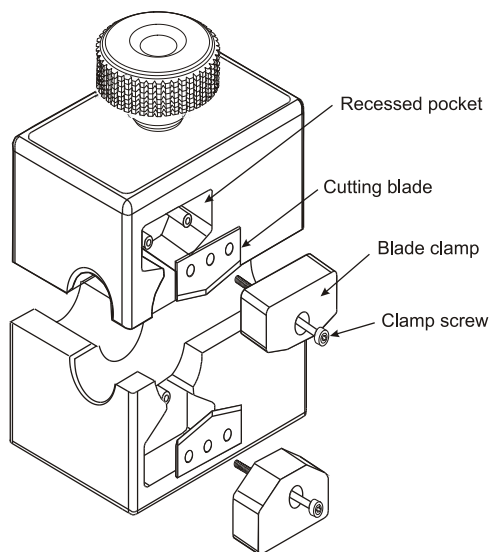

Figure 5. Blade Replacement for the 1050E Tool
6.11 The following paragraphs describe blade replacement for the 1050E tool (Figure 5). Repeat Steps 6.12 through 6.15 for each blade being replaced.